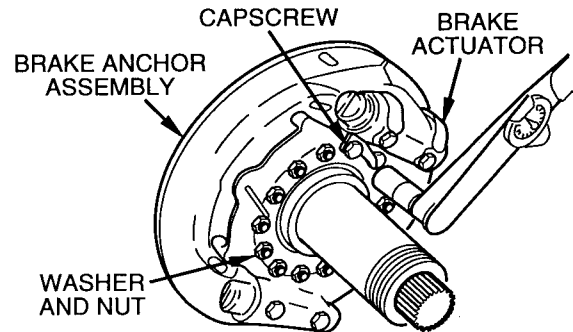

Figure 30 Installing the Brake Anchor
35. Torque all nuts and capscrews to 180 lb. ft. (244 N•m) wet. Use RTV on studs instead of oil. (See Figure 30).